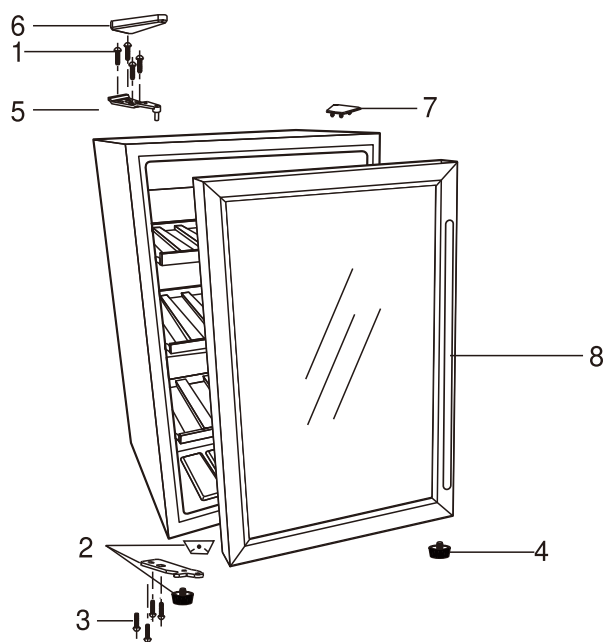

Fig.2
- Remove the cover plate (Fig. 2: No.7) covering the upper hinge holes.
- Reverse the direction of lower hinge (Fig. 2: No. 2).
- Install the lower hinge, front leg and door stop (Fig. 2: No. 2) on the lower frame with screws (Fig. 2: No. 3).
- Holding the door in the closed position, secure the upper hinge (Fig. 2: No. 5) to the door and screw into the frame (Fig. 2: No. 1). Note: Do not fully tighten the screws (Fig. 2: No. 1) until the top of the door is level with the top of the unit.
- Install upper hinge cover (Fig. 2: No. 6) over the upper hinge.